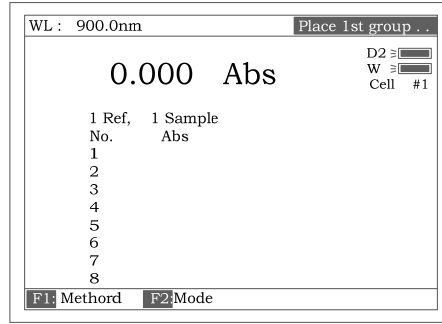
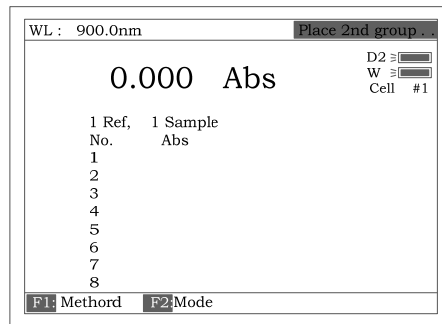

Fig 105
Fig 106
7. Press **[START]**, the screen display as Fig 105, the “Place 1st group...” appear on the right of top line, Press **[0Abs/100%T]**, the 8 references are taken automatically and the screen change to Fig 106.